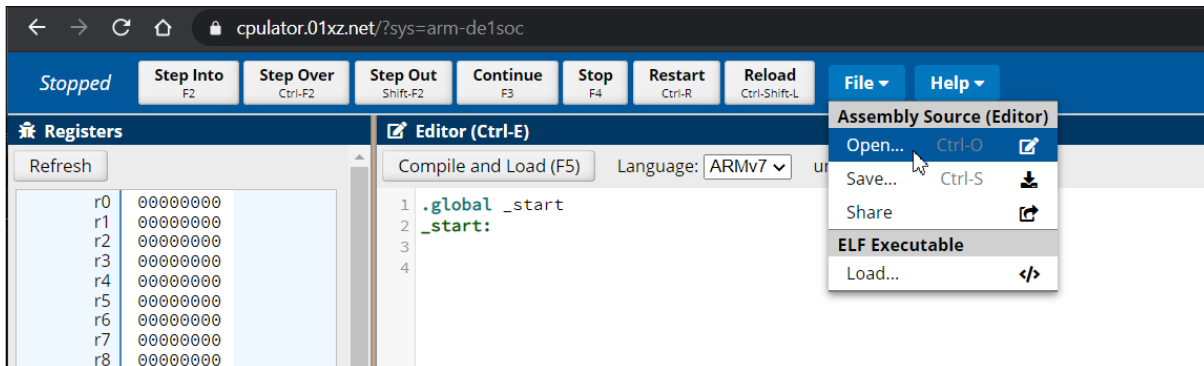
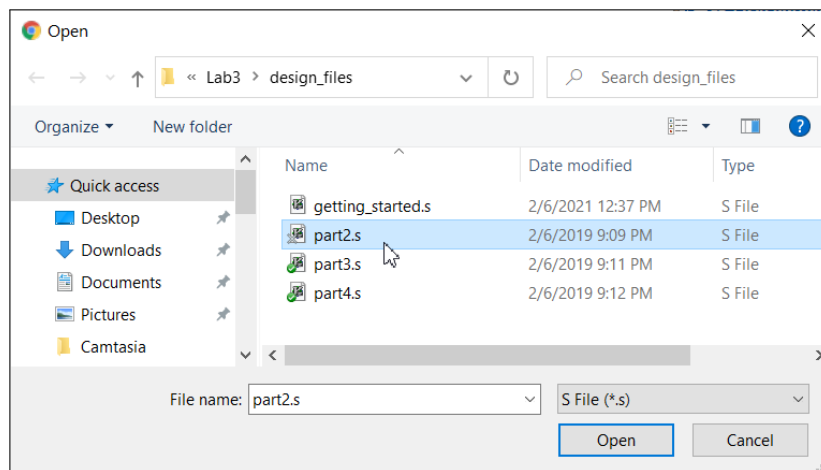

Figure 2: The `File` menu in *CPULator*.
Figure 3: Selecting the `part2.s` file.
1. Create an assembly-language source-code file for the program in Figure 1, and name the file *part2.s* (this file is included in the *design files* for this lab exercise). Then, open the *CPULATOR* web-site and set its system parameters to choose the ARMv7 processor and DE1-SoC board (the corresponding URL for the *CPULATOR* web page should be <https://cpulator.01xz.net/?sys=arm-del1soc>). As indicated in Figure 2, click on the File command near the top of the *CPULATOR* window and then select Open . . . Next, in the dialogue depicted in Figure 3, browse in your computer's file-system to choose the *part2.s* file and then click .